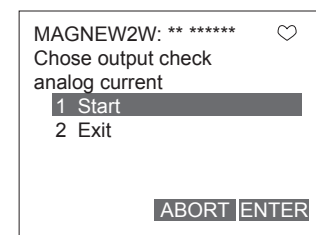

Fig. 7-65.
4. Fig. 7-65. will then appear. When executing the adjustment, select "SET", and then press F4 (ENTER).
Measure the pulse frequency from the converter and enter the frequency by the Hz into the device. Once the input has been completed press F4 (ENTER). The converter will start adjusting to 90 Hz automatically, and return back to the display as shown in Fig. 7-65. Verify that the pulse output is 90Hz, and terminate the adjustment.